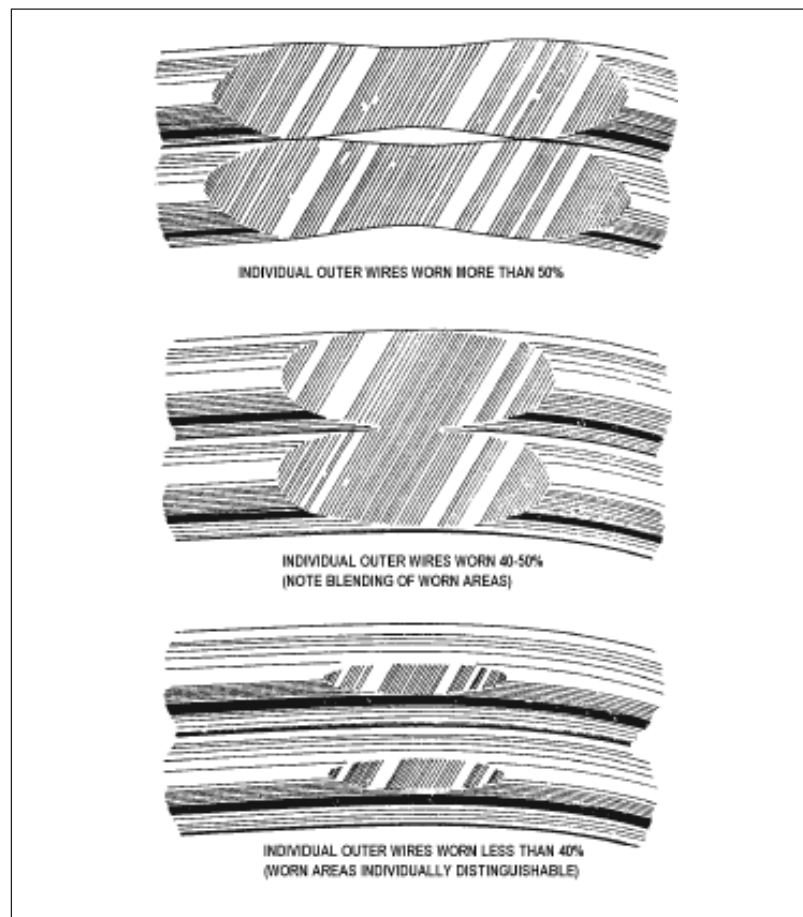

Figure 15 Cable Wear Patterns.
- Replace cable when worn areas on the individual wires in each strand appear 40% or more (as depicted in Figure 15).